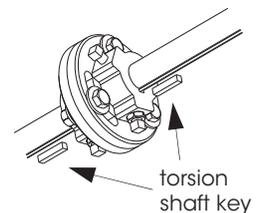

Fig. 5.2.2
- j) Cut torsion shaft key in half and insert into torsion bar at the torsion shaft couple, and fix into place by tightening the grub screws on the shaft couple Fig 5.2.2.